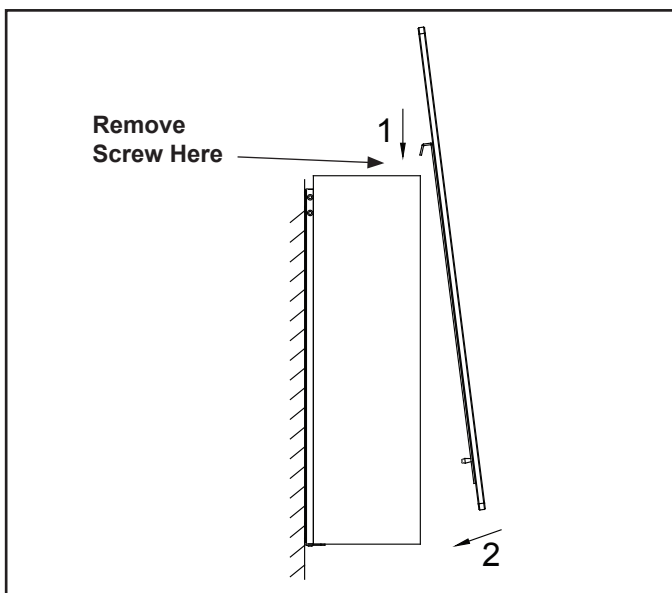

Figure 13 Removing Front to Fireplace
1. Remove Glass Front from appliance. Remove two retaining screws that connect the mounting brackets on the glass front to the top corners of the appliance. Pull gently on the bottom of the glass panel to disengage the plug connectors on the bottom corners of the appliance. When the plug connectors are disengaged, lift up on the glass front to disengage the hanging brackets from the top corners of the appliance. Set the glass front aside in a safe location. See Figure 13.
4. Remove Glass Front from appliance. Remove two retaining screws that connect the mounting brackets on the glass front to the top corners of the appliance. Pull gently on the bottom of the glass panel to disengage the plug connectors on the bottom corners of the appliance. When the plug connectors are disengaged, lift up on the glass front to disengage the hanging brackets from the top corners of the appliance. Set the glass front aside in a safe location. See Figure 13.